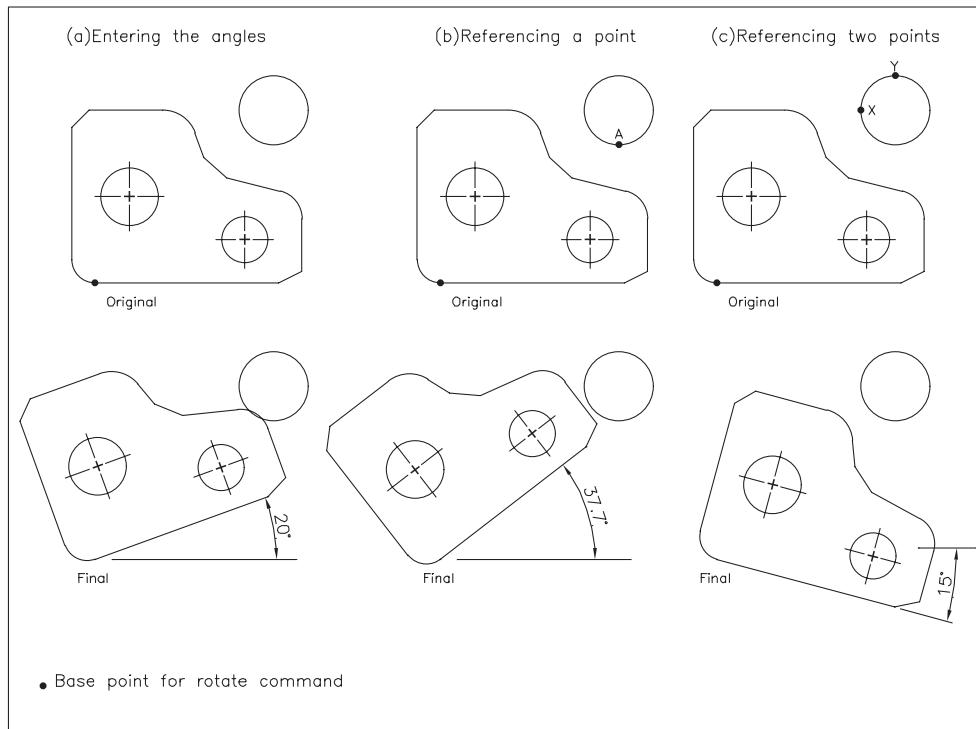

Figure 15.6 Using the REFERENCE option of the ROTATE command with WORKDRG.
2 Close any existing drawing (no save) and open the original WORKDRG. Refer to Figure 15.6.
and        the selected shape will be rotated through an angle of 20 degrees as Figure 15.6(a).
- d) the selected shape will be rotated about the base point as Figure 15.6(b)
- d) the selected shape will be rotated about the base point as Figure 15.6(c)